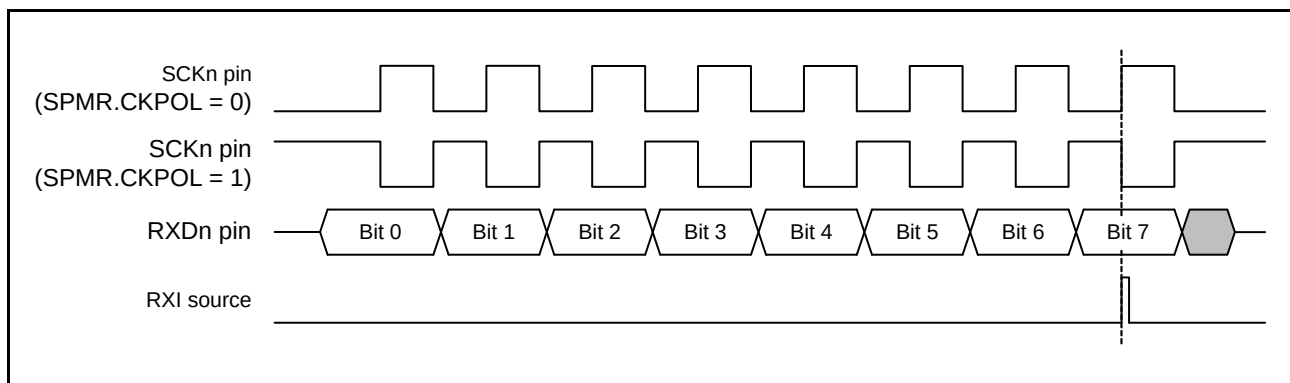

Figure 23.80 Timing of the RXI Interrupt in Simple SPI Mode (with Clock Delay)
- In the case of the setting for clock delay (SPMR.CKPH bit is 1), the receive data full interrupt (RXI) is generated before the final clock edge on the SCKn pin as indicated in Figure 23.80. If the TE and RE bits in the SCR register become 0 at this time before the final edge of the clock signal on the SCKn pin, the SCKn pin is placed in the high-impedance state, so the width of the last clock pulse of the transfer clock is shortened. Furthermore, an RXI interrupt may lead to the input signal on the SSn# pin of a connected slave going to the high level before the final edge of the clock signal on the SCKn pin, leading to incorrect operation of the slave.